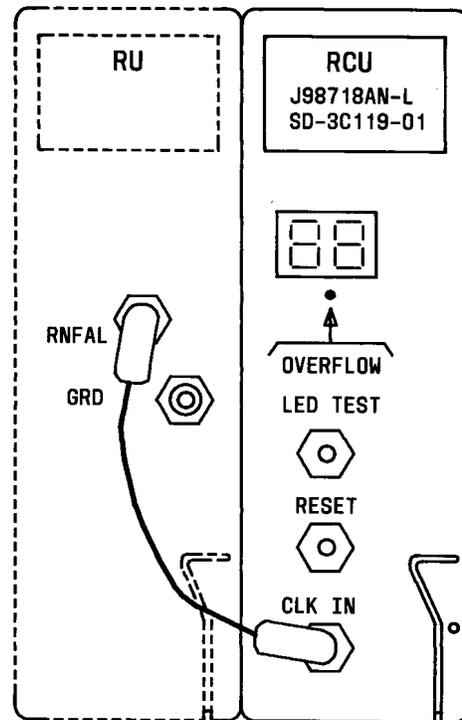

Fig. 1—RCU Installed and Connected for Operation
2.02 The RCU (Fig. 1) plugs into the channel bank next to the receive unit (RU) in the slot allocated for the transmission monitor unit (TMU). This slot is vacant in a conventional D3 channel bank because the development of the TMU test board was cancelled. In the D3B channel bank, the data logic unit already occupies this slot, and the RCU cannot be used.
2.03 A short jumper lead equipped with pin plugs is connected between the CLK IN jack on the RCU and the RNFAL jack on the adjacent RU (Fig. 1). The RCU can be inserted and the jumper lead installed without interrupting service. However, when the jumper is connected to the RNFAL jack, the other end must not be allowed to touch the front of the units because the ground will cause a local alarm.